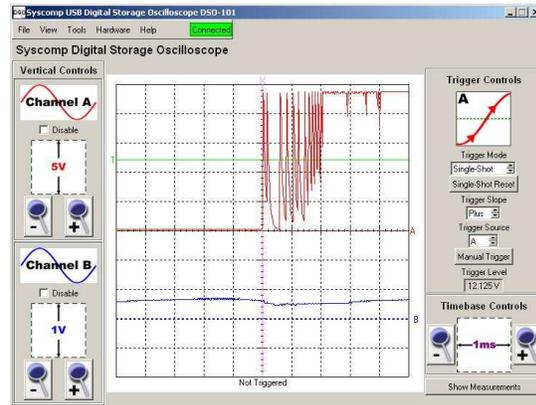

Figure 3: Contact Bounce, Relay Closure
- mechanical switch, contact bounce [12], see figure 3